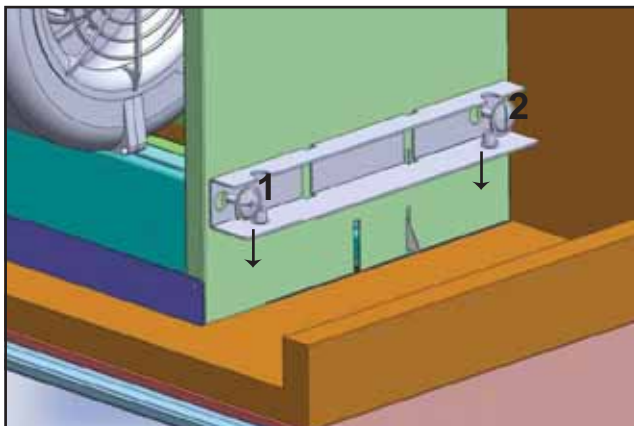

Fig.5
4) Secure upper brackets to left and right sides of hood body by using (2) 3/16 x 3/8" screws for each bracket, Fig.5. Make sure the (2) captive nut screw holes on the bracket are facing downward. Note: Due to limited workspace in 30" cabinets you will need to use a right angle or 2" long Philips head screwdriver.